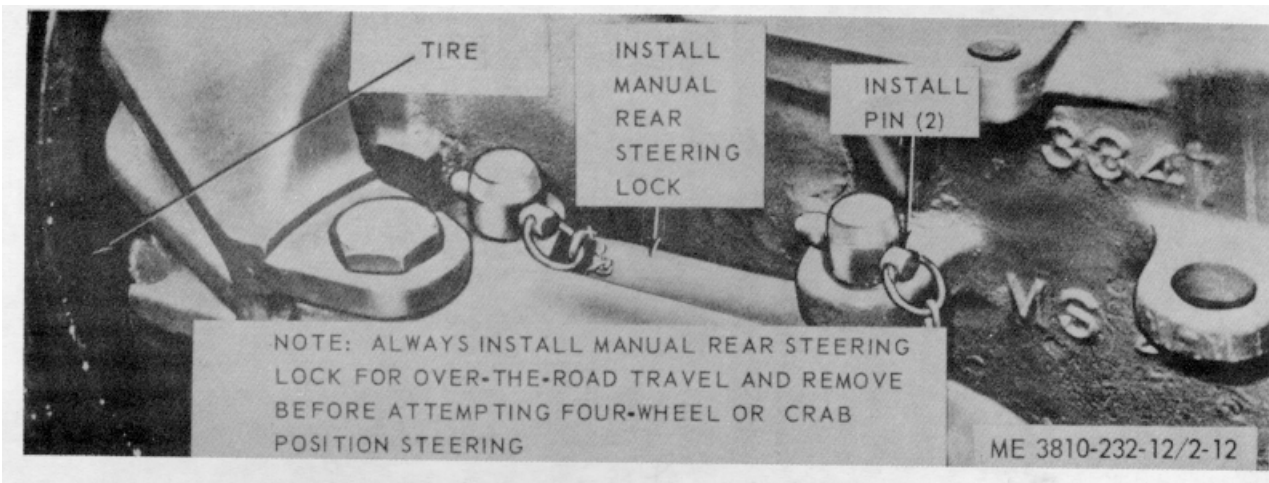

Figure 2-12. Manuel rear steering lock, installation
(6) Install manual rear steering lock for over the road travel as illustrated in figure 2-12.